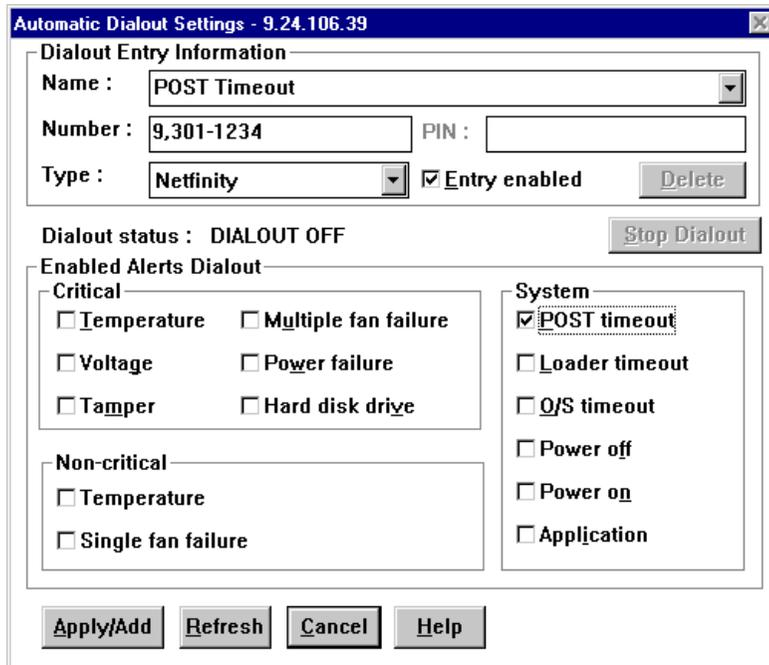

Figure 186. Remote Alert Settings
1. Open **Remote Alert Settings**. Figure 186 appears: